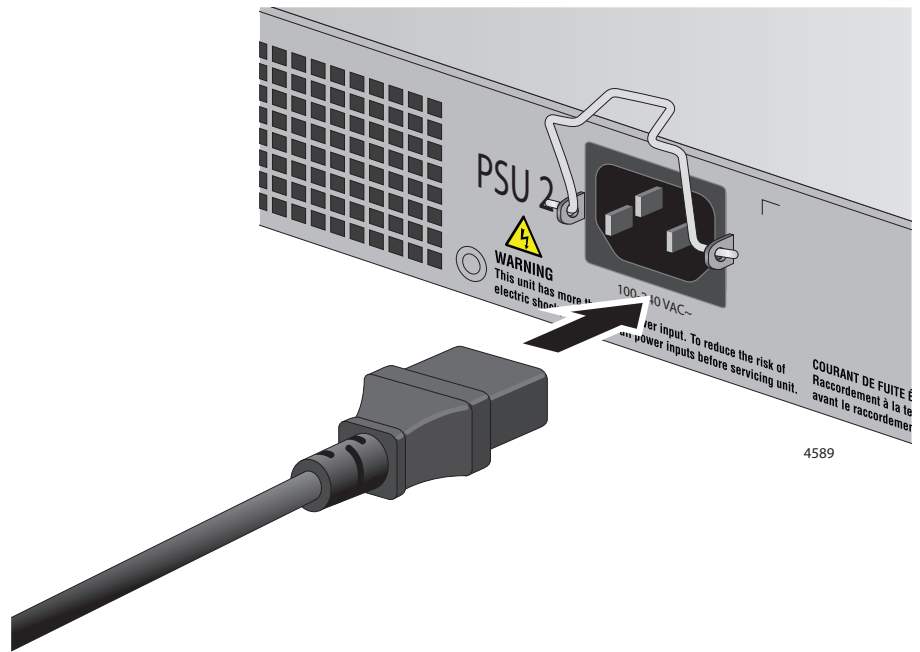

Figure 57. Connecting the AC Power Cord to the Switch
2. Connect the AC power cords to the AC power connectors on the rear panel of the switch. Refer to Figure 57 on page 147.